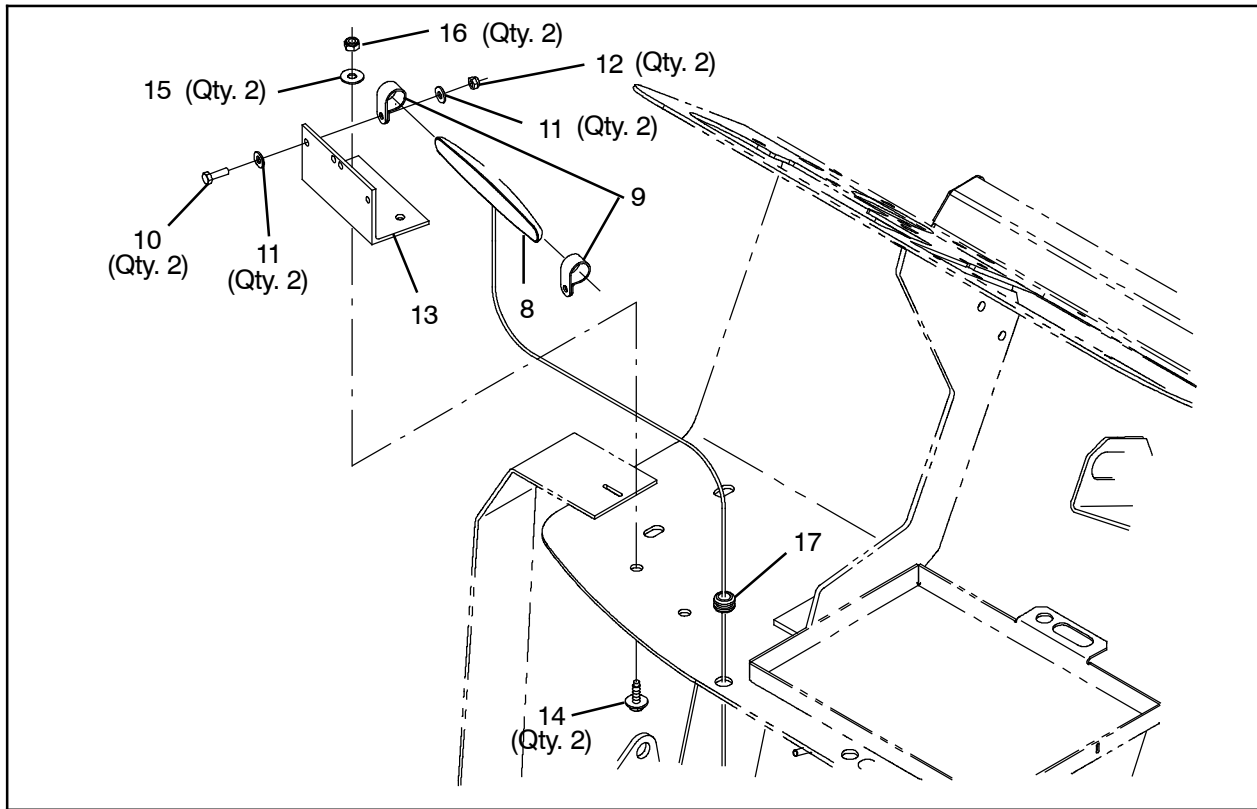

FIG. 2
1. Use two M5 hex screws (10), four flat washers (11), two M5 hex nuts (12), and two cable clamps (9) to install the telemetry antenna (8) onto the telemetry antenna bracket (13). (Fig. 2)
2. Use two SEMS M6 hex screws (14) two flat washers (15), and two M6 hex nuts (16) to install the telemetry antenna (8) / telemetry antenna bracket (13) onto the front of the operator compartment. (Fig. 2)
3. Insert the rubber grommet (17) into the hole located near the battery in the front of the operator compartment. (Fig. 2)
4. Route the telemetry antenna (8) cable through the grommet (17) installed into the operator compartment in the previous step, across the top of the fuse cover box under the battery tray, and around under the battery tray. (Fig. 2 / Fig. 3 / Fig. 4)